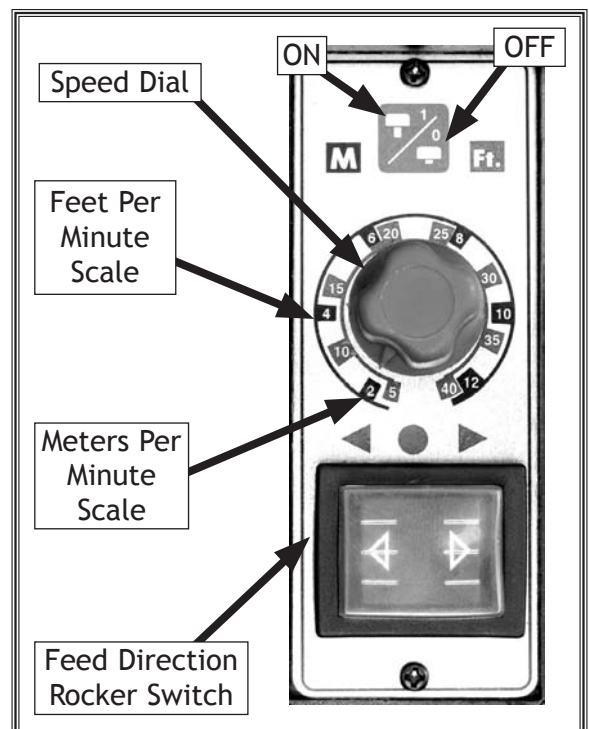

Figure 17. Feeder motor controls.
3. Make sure the speed dial (Figure 17) is pushed *IN* and turned all the way to the left.
4. Make sure the feed direction rocker switch (Figure 17) is in the central position.